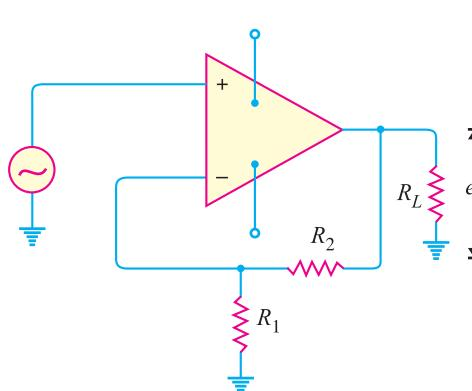

Fig. 13.30
- Fig. 13.30 shows the negative feedback amplifier. If the gain of the amplifier without feedback is  $10^5$  and  $R_1 = 100\text{ }\Omega$ ,  $R_2 = 100\text{ k}\Omega$ , find (i) feedback fraction (ii) gain with feedback.